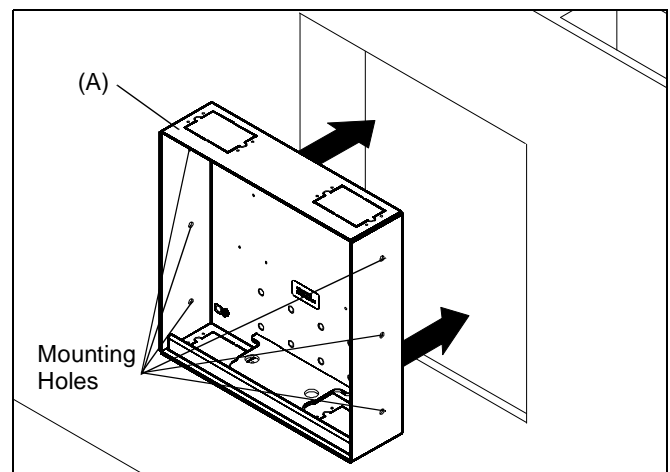

Figure 2
1. Install PAC-GB1 electrical box accessory into the MAC-501 (A) following instructions included with the PAC-GB1.
4. Center MAC-501 (A) in opening and insert into opening.
5. Align front of box with front face of wall. (See Figure 2)